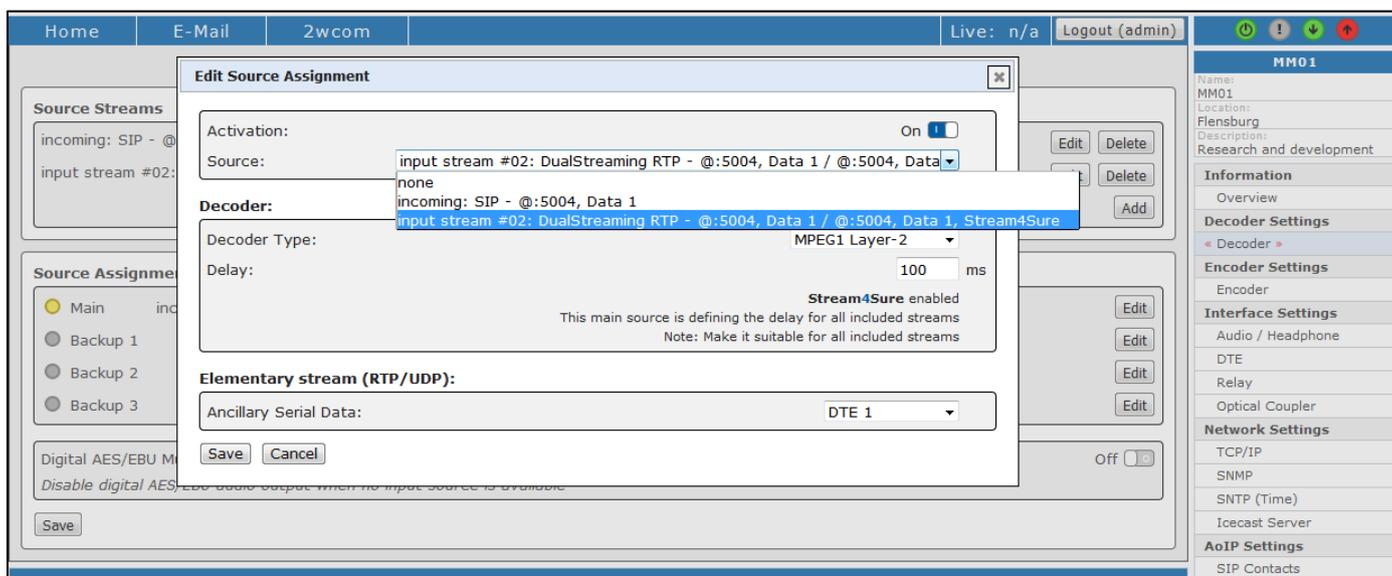

Figure 42: Decoder Settings – Input Source Assignment
6. Assign the configured dual input streaming to the Main Source in the menu "Source Assignment" (see Figure 42)
2. Click the button in the field **Source Assignment** to configure the Main Source and Backup Sources 1-3. The page *Edit Source Assignment* appears (see Figure 42).